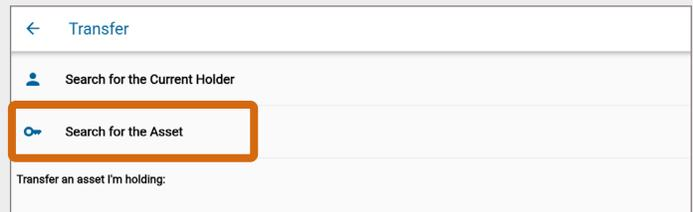

Fig. 117 – Transfer screen – Search for the Asset
3. On the **Transfer** screen, if you know the asset you need but not who currently has it, select **Search for the Asset**, as shown in Fig. 117.